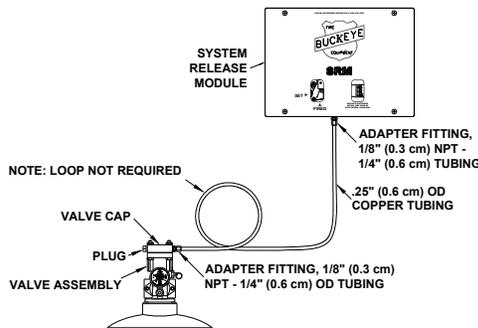

Figure 4-3.
1. The (4) mounting screw holes in the bottom of the Systems Releasing Module(s) must be filled. The Systems Releasing Module(s) Connection Kit includes four (4) 1/4 (0.6 cm)-20 x 7/8" (2.2 cm) socket head screws to accomplish this. See **Figure 4.3**.